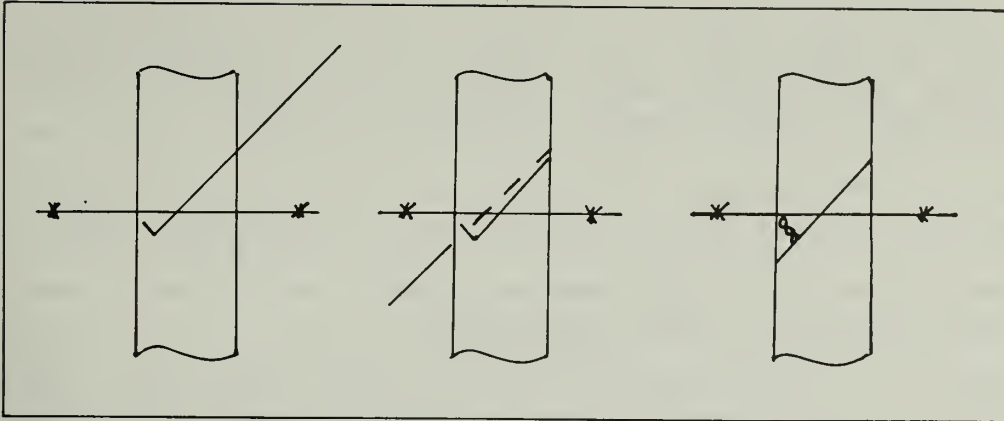

Figure 41. Single Wrap for Dropper Attachment.
4. Knots for use when droppers are attached with wire, are depicted in Figures 41, 42 and 43.